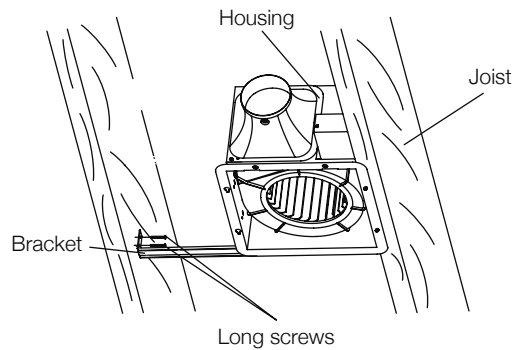

Figure 2-1
2. Mount the fan housing to joist using the suspension brackets and long wood screws (Fig. 2-1 or Fig. 2-2 and 2-3).